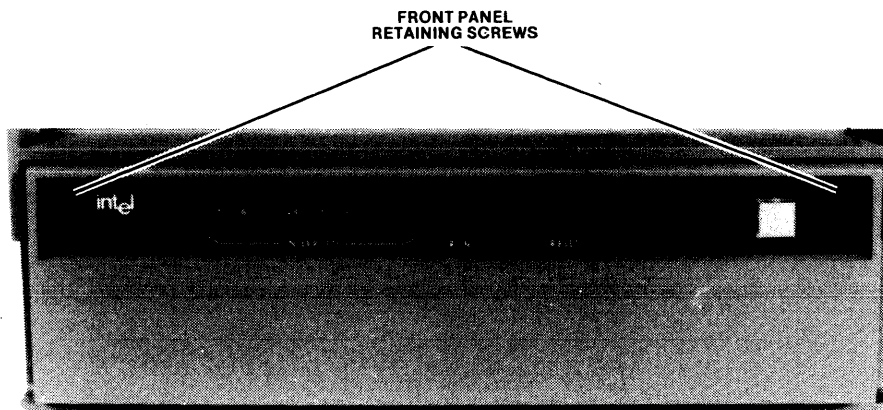

Figure 2-3. Mainframe Front Panel
- e. On mainframe front panel (figure 2-3), rotate the two retaining screws counterclockwise and remove front panel.